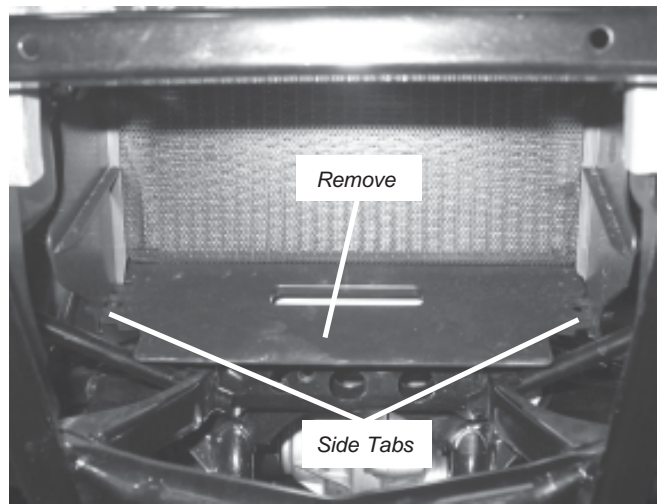

Figure 7 Remove Plastic Radiator Panel
7. Depress the side tabs and remove the plastic radiator panel from the vehicle, figure 7. This panel will be reinstalled later.